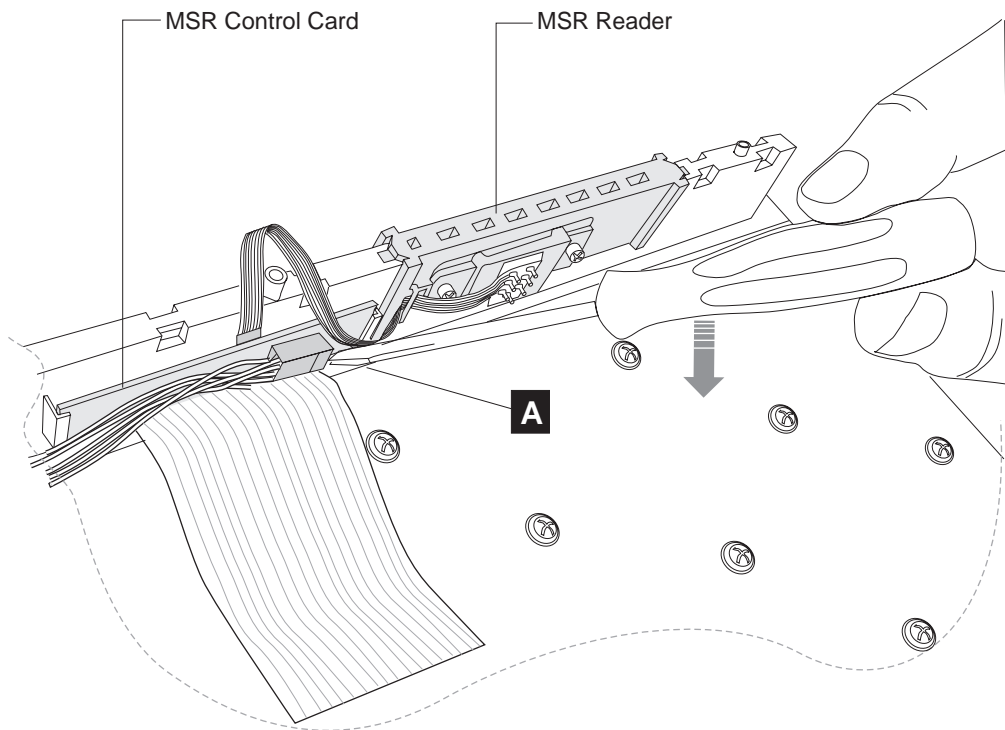

Figure 45. Removing the MSR control card
3. To remove the MSR control card, place a small slotted screwdriver between the metal keypad assembly and the bottom of the MSR control card **A**, and pry the control card up and off the two plastic guides as shown in Figure 45 on page 48.
1. Install the MSR control card onto the keypad assembly by inserting the control card into the two plastic guide, as shown in Figure 45.